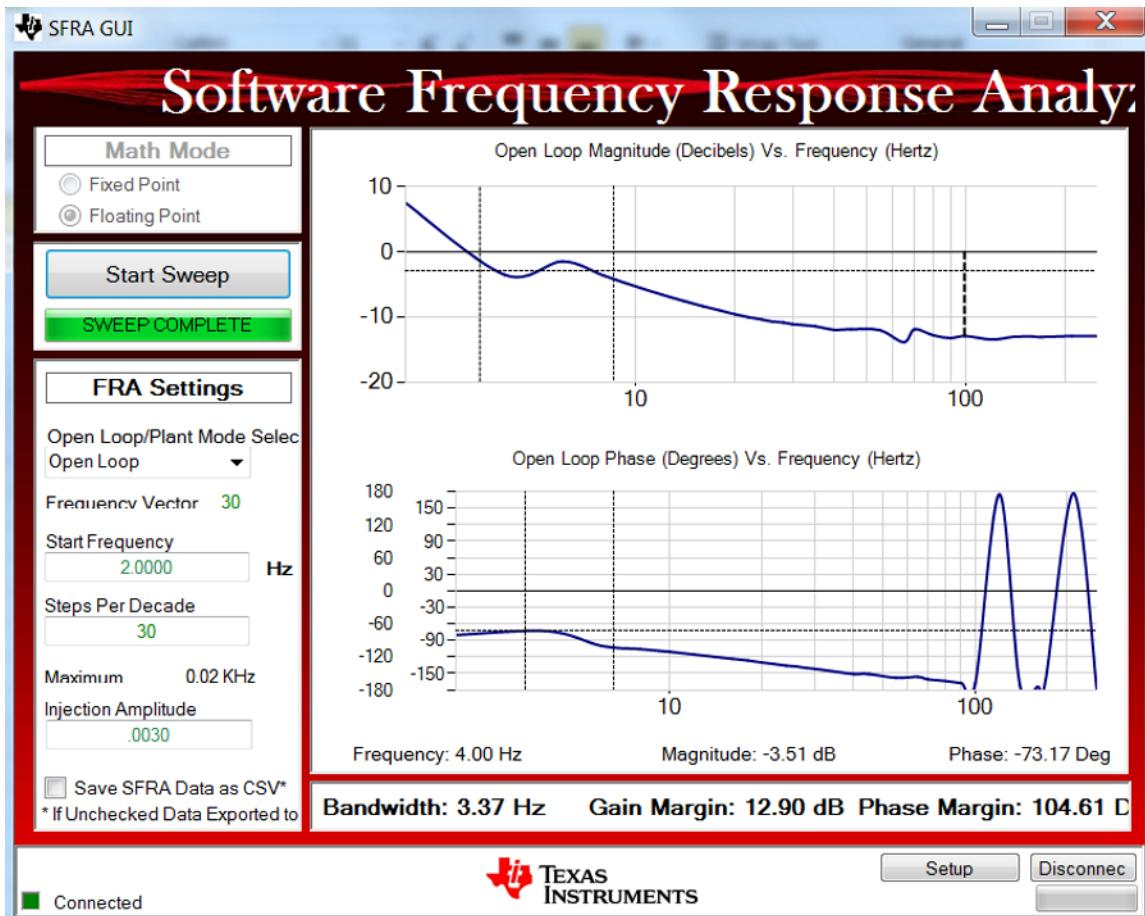

Figure 48. SFRA Run on Balance Voltage Loop
9. The SFRA GUI will connect to the device. A SFRA sweep can now be started by clicking *Start Sweep*. The complete SFRA sweep will take a few minutes to finish. Activity can be monitored by seeing the progress bar on the SFRA GUI and also by checking the flashing of blue LED on the back on the control card that indicate UART activity. Once complete a graph with the open loop plot will appear, as shown in Figure 48. This graph verifies that the designed compensator is indeed stable.